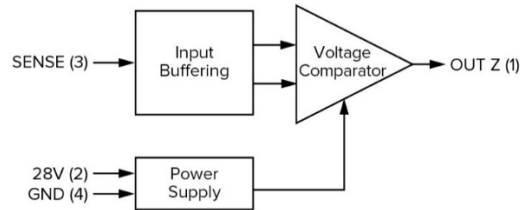

FIGURE 7. Voltage Sensor.
**OEC Voltage Sensor (VS), Specifications:**
Voltage Sensor is a solid-state, low-side direct current (DC) voltage sensor and may be configured for undervoltage or overvoltage detection. Voltage sensing is low drift over the specified temperature range. The Voltage Sensor compares positive DC voltage in a linear relationship between the specified setpoint and the voltage that is being monitored by the Sense Input (Pin 3). The OUT Z (Pin 1) provides a discrete signal that transitions from Open to Ground when the Sense Input (Pin 3) detects voltage that is above or below the specified setpoint. See Figure 7.